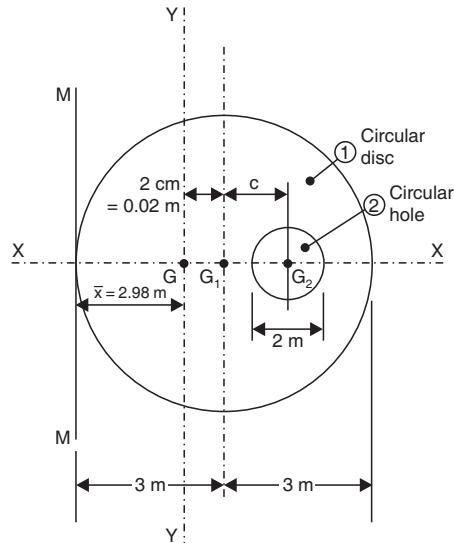

Fig. 7.29
**Sol.** Refer to Fig. 7.29. Since, the remaining body is symmetrical about  $XX$ -axis, therefore  $\bar{y} = 0$ .